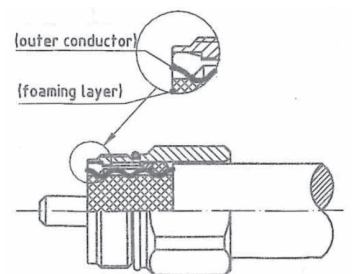

Fig4
6. Click the rear nut (Back DOS Shell No.3) onto your prepared coaxial cable end and click the internal clip into the first trough of your cable. **See fig 4**
8. Some slight flaring of the outer conductor may be required for correct fitment of the main body. Use your small screw driver to gently flare the outer conductor to contact all clip fingers. **See fig. 4**